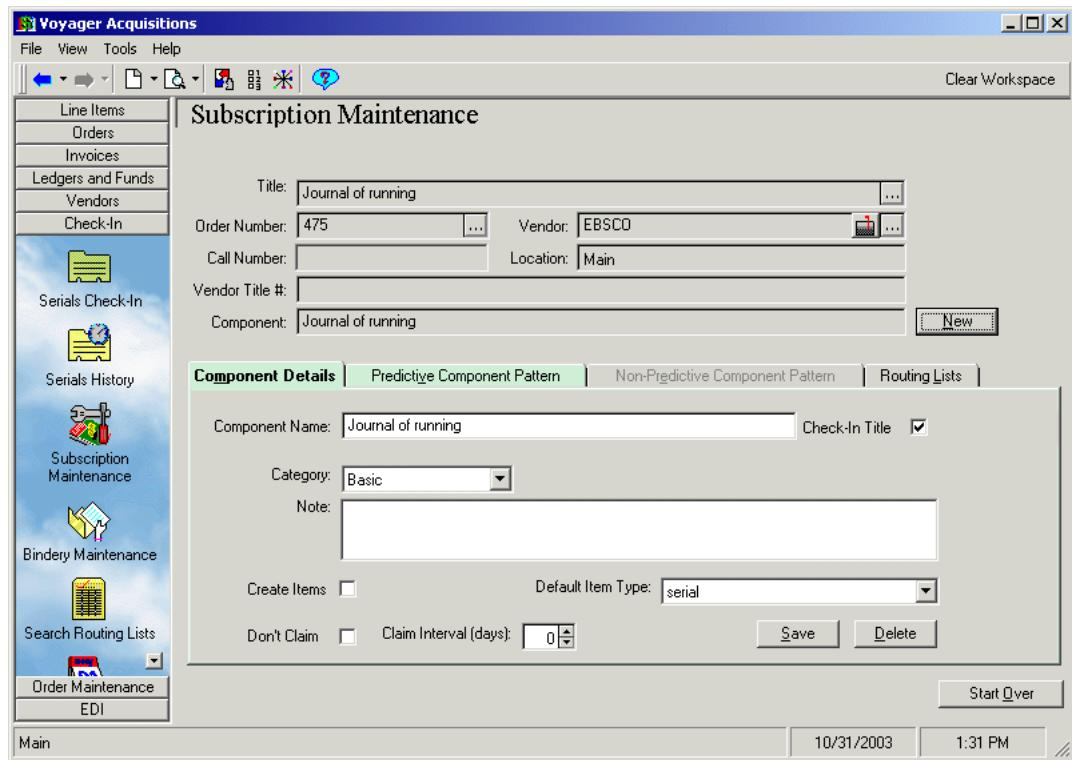

Figure 13-8. Subscription Maintenance work space - ellipsis displayed beside the Title field
- The **ellipsis** button beside the **Title** field at the top of the **Subscription Maintenance** work space (see Figure 13-8). See Subscription Maintenance on page 8-1 for more information.